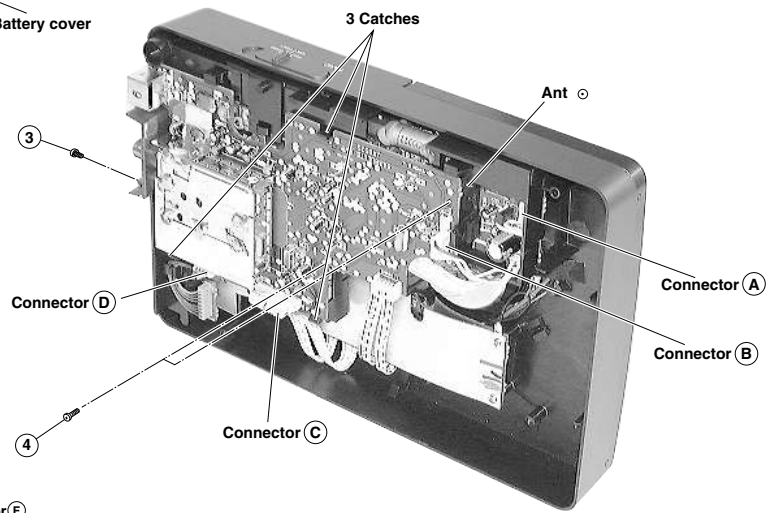

Fig. 2
2. Removal of SATELLITE P.W.B. Board (Fig. 2)
4. Feed in a weak signal to IC201 (Note 3) from the genescope. Use the T201 core to form the S-curve shown in the Fig. 2. Adjust the symmetry of A and B about point C for linearity.